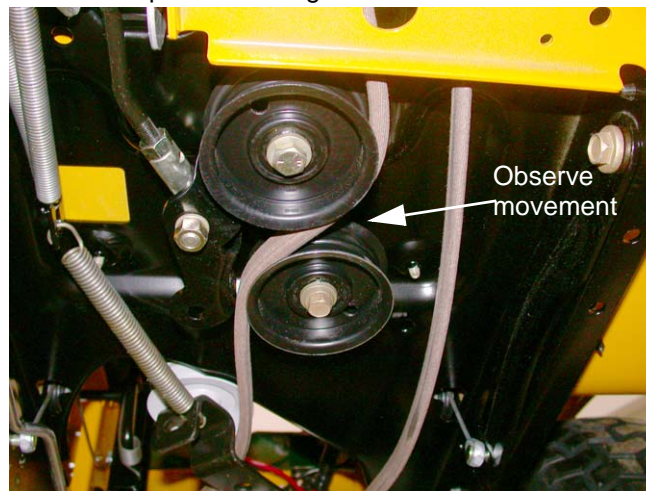

Figure 18.9
18.9. Operate the drive pedal while observing the movement of the components controlled by the drive pedal. See Figure 18.9.